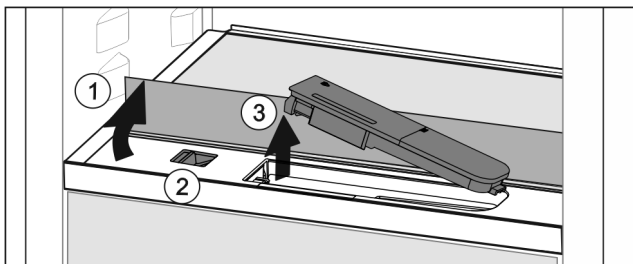

Fig. 41
- ▶ Lift the glass panel and fold to the back as far as it will go (Fig. 41 (1)).
- ▶ Slide the slider (Fig. 41 (2)) to the left.
- ▶ Remove the water tank (Fig. 41 (3)).